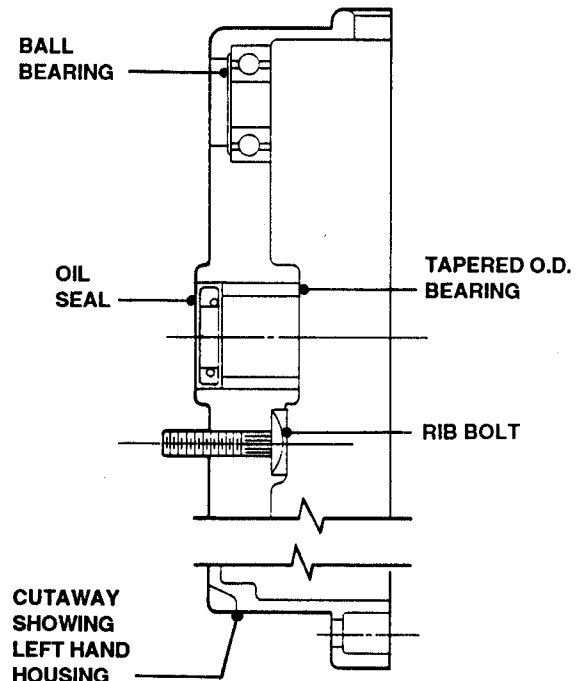

FIGURE 5.14
- Drive tapered O.D. axle bearings out of housings from the INSIDE. See Figure 5.14.
(e) Drive old rib bolts in Left Housing out toward the INSIDE, preferably using a plastic mallet. Install new rib bolts from kit. Refer to Figure 5.14.